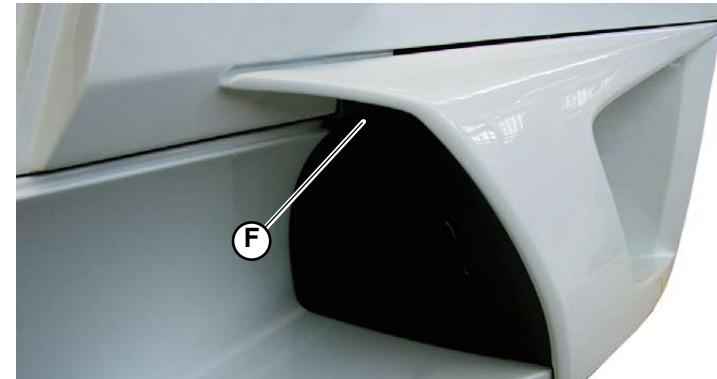

Fig.3
7. Tighten the screw (F-Fig.3) at the front of the conveyor.